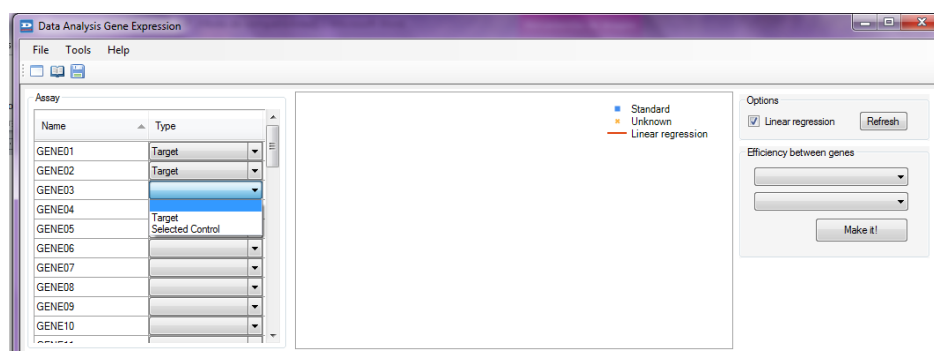

Figure 2. Datagridview of assays
4.2.3. Set the assay design (Fig. 2)